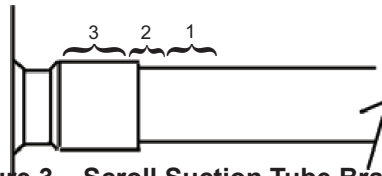

Figure 3 – Scroll Suction Tube Brazing
Figure 3 discusses the proper procedures for brazing the suction and discharge lines to a scroll compressor. **NOTICE: It is important to flow nitrogen through the system while brazing all joints during the system assembly process.** Nitrogen displaces the air and prevents the formation of copper oxides in the system. If allowed to form, the copper oxide flakes can later be swept through the system and block screens such as those protecting capillary tubes, thermal expansion valves, and accumulator oil return holes. The blockage – whether it is of oil or refrigerant – is capable of doing damage resulting in compressor failure.
If the refrigerant charge is removed from a scroll-equipped unit by evacuating the high side only, it is possible for the scrolls to seal, preventing pressure equalization through the compressor. This may leave the low side shell and suction line tubing pressurized. If a brazing torch is then applied to the low side while the low side shell and suction line contain pressure, the pressurized refrigerant and oil mixture could ignite when it escapes and contacts the brazing flame. **CAUTION! It is important to check both the high pressure and low pressure sides with manifold gauges before unbrazing.** Instructions should be provided in appropriate product literature and assembly (line repair) areas. If compressor removal is required, the compressor should be cut out of system rather than unbrazed. See Figure 3 for the proper compressor removal procedure.
2. Install the suction and discharge manifolds. If the manifolds are brazed to the compressors following the brazing guide in **Figure 3**. If the manifolds are connected to the compressors with rotalocks torque the rotalocks to the value specified in **Table 2**.